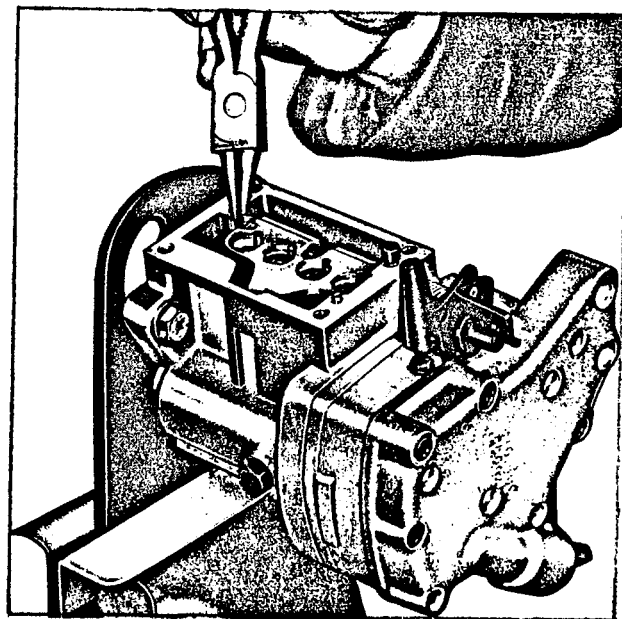

Fig. 25 - Renewing a Ball Piece
Fig. 25 bis - Hydraulic Head: Section through Oilways
2. Lack of sealing oil ring between plunger and barrel (79)(on one or more plungers) owing to the oilway being clogged (see figure 25 bis).